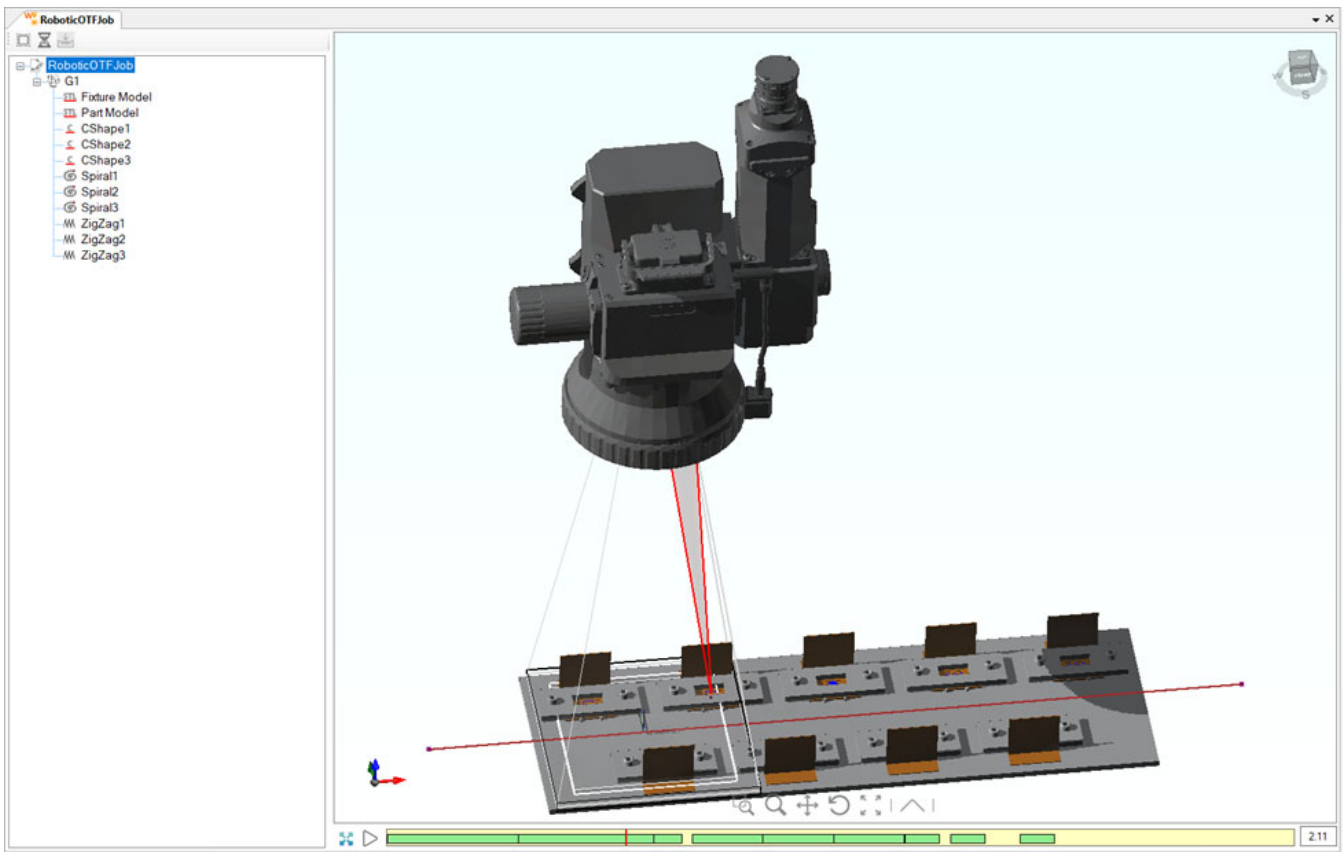

Figure 247: Successful Dryrun and Beam Trajectory Viewing
10. Upon successful completion of a Dryrun, users can scrub along the canvas timeline to view the beam trajectory for processing. See Figure 247 (below).